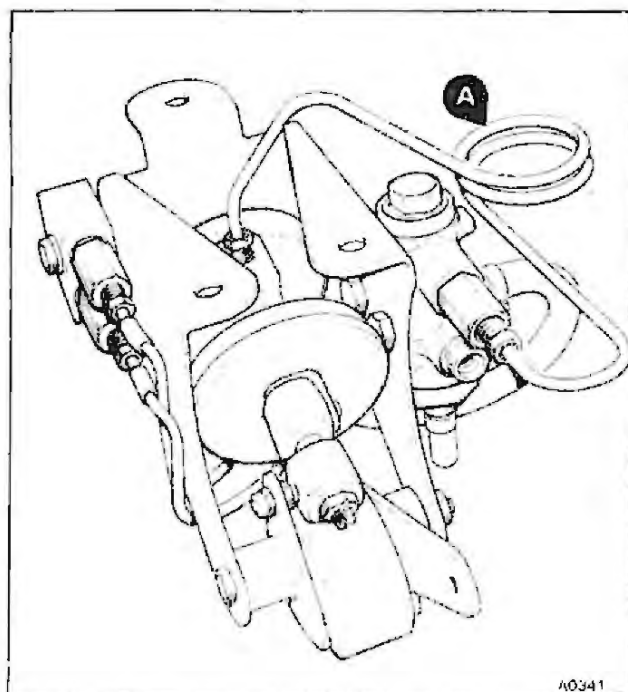

Fig. 3 Left-hand side
- 4 Fit the new height control valve to the minimum pressure valve pipe, and new rubber sealing sleeves (see figs. 3 and 4).